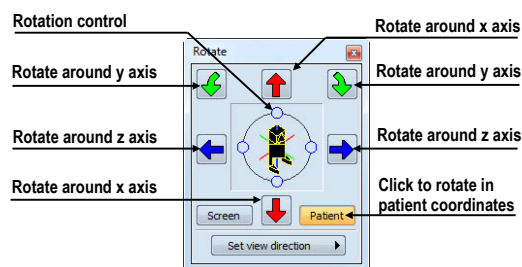

Figure 219 – Rotate tool (Patient mode)
- rotation in patient coordinates (see Figure 219)